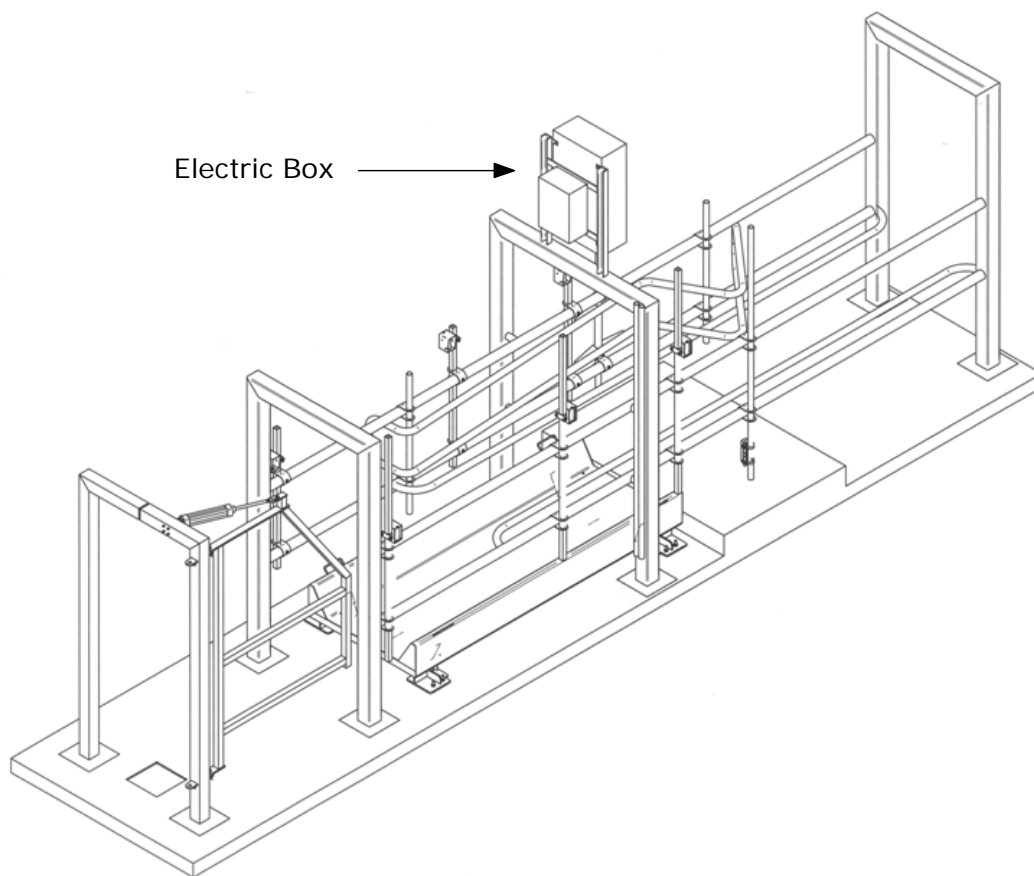

Figure 17: Location of Electric Box
1. On the frame of the station (as shown in Figure 17), or